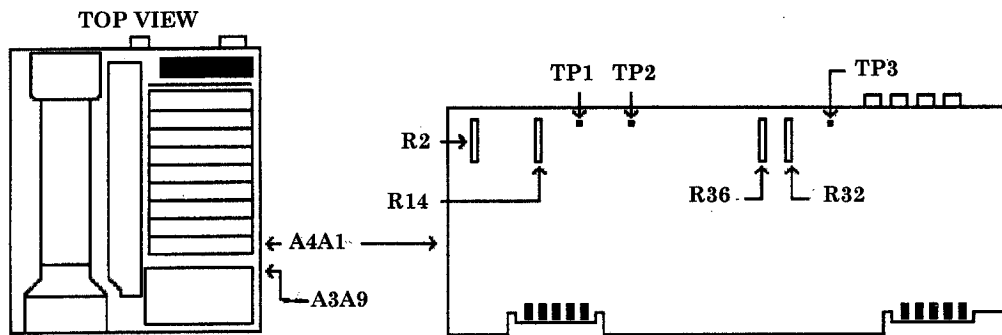
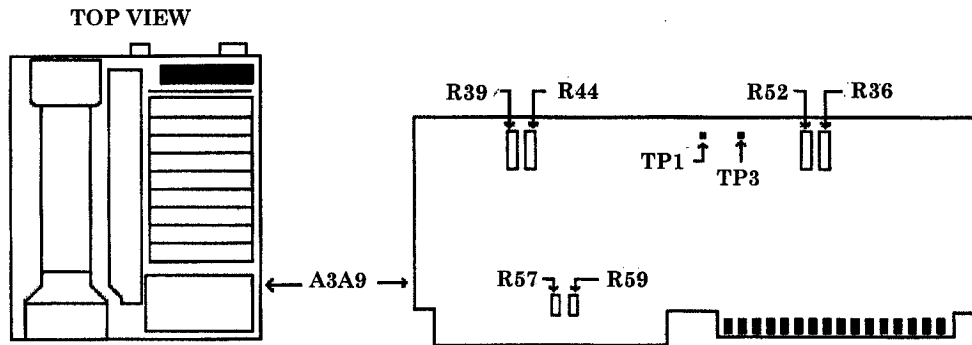

Figure 21. A4A1 board.
Figure 22. A3A9 board.
- (1) Set TI **LINE** switch to **STANDBY**.
- (2) Remove TI top cover.
- (3) Remove cables attached to the A3 digital storage cage.
- (4) Remove digital storage cage cover.
- (5) Reconnect cables to digital storage cage removed in (3) above.
- (6) Connect TI **RF INPUT** to TI **CAL OUTPUT** through attenuator No. 2.
- (7) Set TI **LINE** switch to **ON**.
- (8) Press TI **2-22 GHz** key.
- (9) Connect multimeter **HI** to A4A1TP1 (fig. 21) and multimeter **LO** to A3A9TP1 (fig. 22).
- (10) Press TI keys as listed in (a) through (c) below:
- (11) Set attenuator No. 2 to 120 dB. Multimeter indication should be  $0.000 \pm 0.001$  V dc (R).
- (12) Connect multimeter **HI** to A4A1TP2 (fig. 21).
- (13) Adjust A4A1R14 (fig. 21) for a multimeter indication of  $-5.000 \pm 0.003$  V dc (R).
- (14) Connect multimeter **HI** to A4A1TP1 (fig. 21).
- (15) Set attenuator No. 2 to 0 dB.
- (16) Press TI **REFERENCE LEVEL** key.
- (17) Adjust TI **DATA** knob for a multimeter indication as close to  $1.000 \pm 0.001$  V dc as possible. (It may be necessary to slightly adjust the TI **AMPTD CAL** control to achieve required tolerance).
- (18) Press TI **SCALE LOG, 1, dBm** keys.
- (19) Connect multimeter **HI** to A4A1TP3 (fig. 21) and multimeter **LO** to chassis.
- (20) Adjust A4A1R14 (fig. 21) for a multimeter indication of  $2.000 \pm 0.010$  V dc (R).
- (21) Set attenuator No. 2 to 120 dB.
- (22) Adjust A4A1R32 (fig. 21) for a multimeter indication of  $0.000 \pm 0.001$  V dc (R).
- (23) Press TI keys as listed in (a) through (f) below:
- (24) Set attenuator No. 2 to 40 dB.
- (25) Connect multimeter **HI** to A4A1TP1 (fig. 21). Record multimeter indication.
- (26) Press TI **REFERENCE LEVEL, 60, - dBm** keys.
- (27) Adjust A4A1R2 (fig. 21) for a multimeter indication  $0.100 \pm 0.001$  V dc greater than the indication recorded in (25) above (R).
- (28) Press TI **REFERENCE LEVEL, 70, - dBm** keys.
- (29) Multimeter indication should be  $0.200 \pm 0.002$  V dc greater than the indication recorded in (25) above. If not, readjust A4A1R2 (fig. 21).
- (30) Press TI **REFERENCE LEVEL, 90, and - dBm** keys.